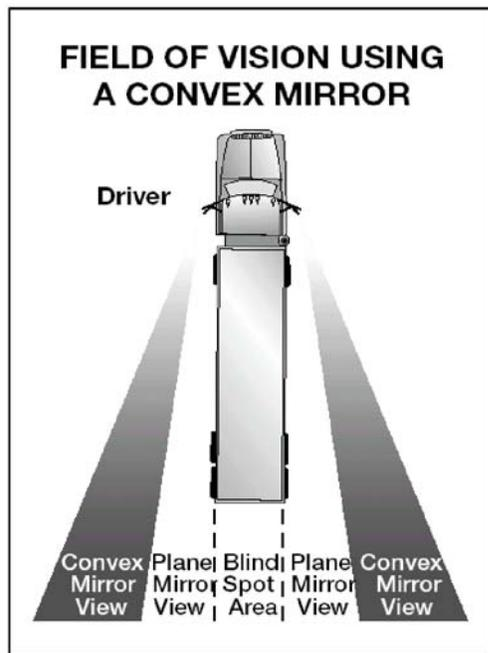

Figure 2.7
- Many large vehicles have curved (convex, "fish-eye," "spot," "bugeye") mirrors that show a wider area than flat mirrors. This is often helpful. But everything appears smaller in a convex mirror than it would if you were looking at it directly. Things also seem farther away than they really are. It's important to realize this and to allow for it. Figure 2.7 shows the field of vision using a convex mirror.